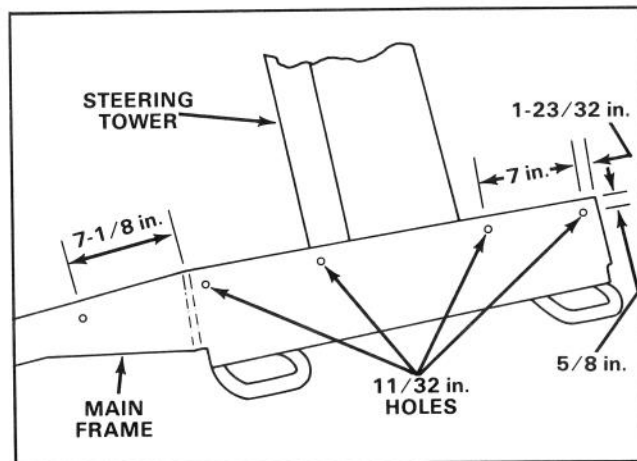

Figure 1
1. On the main frame forward of the steering column tower, measure and mark $5/8$ in. down from the top edge (Fig. 1).
2. From the outer edge of the frame on each side, measure $1-23/32$ in. inward and center punch where they intersect the $5/8$ in. mark (Fig. 1).
3. Measure 7 in. toward the center from each center punch mark and center punch again at the intersection of the $5/8$ in. mark (Fig. 1).
4. From the front face of the frame, measure $7-1/8$ in. rearward along each side and center punch where it intersects the $5/8$ in. mark (Fig. 1).